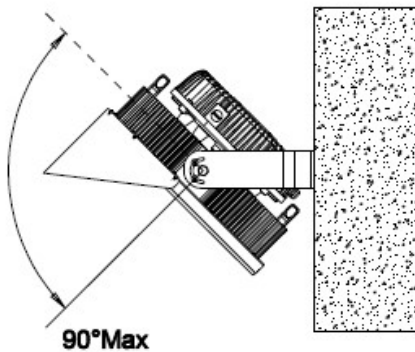
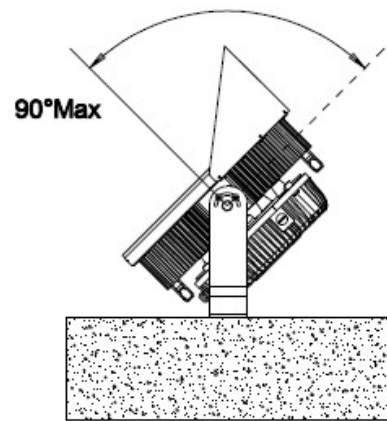

FIG.28
FIG.29
- 2) Align U shaped bracket to the holes on the wall or ground, use expansion screws to fix the bracket. Install fixture on the U bracket, adjust the angle, tighten screws with screwdriver and wrench.(See FIG.28 and FIG.29)